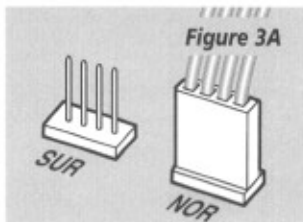
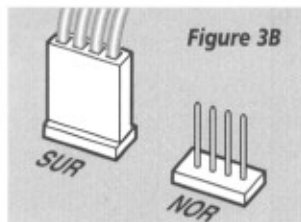

Figure 3A
Figure 3B
**Operation Settings** To set the 6 CMS for Normal (mono or stereo) operation, attach the wiring connector to the pins marked NOR on the crossover board as shown in Fig. 3A. For Trivector surround operation, attach the connector to the pins marked SUR (Fig. 3B).